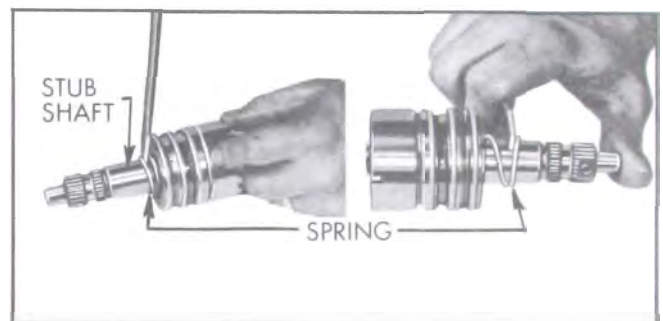

Figure 8-47—Removing Valve Spool Spring
2. Remove valve spool spring by prying on small coil with a small screw driver to work spring onto bearing surface of stub shaft. See Figure 8-47. Slide spring off shaft. Be very careful not to damage stub shaft surface.